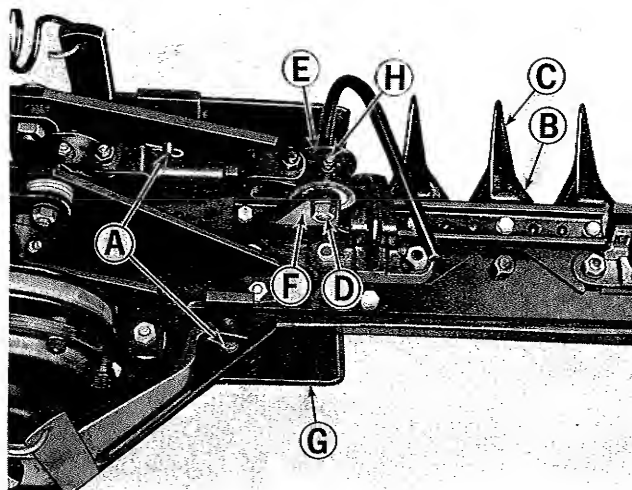

Figure 17. Sickle bar sections lined up when section adjustment is correct.
The inner skid shoe (G) is shown in figure 17. It should be adjusted in the same set of holes to give the same cutting height as the outer skid shoe, so the height of cut will be uniform. To adjust it, remove the spring clips and pins (A) and place them through the appropriate set of holes. When replacing the spring clips, always push them all the way through the holes in the pins to prevent them from being pulled out. To make adjustment of the skid shoes most easily, place a block under the sickle bar, then lower it to the block. This will keep the skid shoes off the ground for easy adjustment, yet prevent the sickle bar from falling and causing injury.
See figure 17. To operate most efficiently, the sickle knives (B) must center in the guard (C) as shown, when the sickle drive mechanism is turned so that the sickle knife is as far to the right as it will go. If adjustment is required, proceed as follows:
1. See figure 17. Rotate the mower drive mechanism by hand turning the drive pulley until the sickle knife is as far to the right as it will go. **CAUTION: USE CARE WHEN WORKING AROUND THE CUTTER BAR ASSEMBLY. THE KNIVES AND GUARDS ARE VERY SHARP.**
2. Remove capscrew (D) and raise bearing housing (E) out of the sickle head assembly (F). Be careful not to allow the washers on either side of the bearing housing (E) to fall out of place.
3. Move the sickle knife (B) until it is lined up as shown with the nearest guard (C).
4. Turn bearing housing (E) clockwise, or counterclockwise as required to line it up with the sickle knife head (F) so capscrew (D) can be inserted without moving either the mower drive mechanism or the sickle knife (B). **NOTE: BUSHING ASSEMBLY (E) WILL HAVE TO BE TURNED FULL REVOLUTIONS SO THAT GREASE FITTING (H) IS ON TOP WHEN IT IS REASSEMBLED.**
5. Install capscrew (D) and tighten the nut securely.